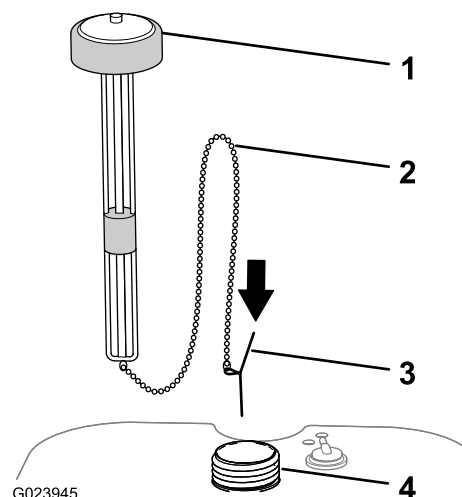

Figure 11
- Insert the retainer that is at the end of the chain for the fuel cap/gauge into the filler neck of the fuel tank (Figure 11).
- Align the fuel cap/gauge over the filler neck, and feed the chain at the end of the gauge into the filler neck (Figure 11).
- Thread the cap onto the filler neck of the fuel tank until it is hand tight (Figure 11).